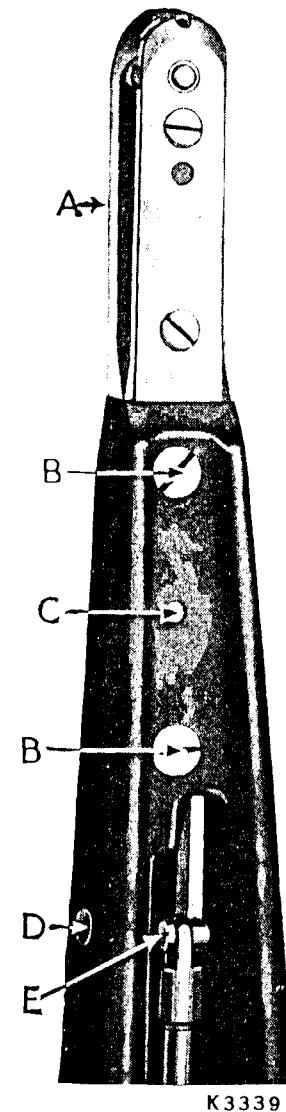

Fig. 19.
Remove the machine head from the treadle stand, or power bench, by taking out the four screws. The head should now be tipped endwise with the underside of the horn facing you. Withdraw the two screws (F) and remove the cover plate so as to expose the parts in the rack box (see Fig. 18), any or all of which can be removed without disconnecting the rack box from the machine. To take out the shuttle carrier, remove the small set screw in the shuttle carrier pinion by inserting a small screw driver through the groove (G) at the side of the rack box. The shuttle carrier can then be pressed through the pinion. To remove the long rack (J) insert the screw driver through the hole (D) (see Fig. 19) and take out the screw. Before, however, withdrawing the rack remove the pinion (L); then grip the rack and draw it in a straight-away manner towards the pulley end of the machine. The short rack (K) and shuttle driver pinion (H) can be removed without difficulty. When replacing the parts, care must be taken to see that the gears and racks are correctly enmeshed, as shown in the illustration.
Instructions for the Removal of the Rack Box (See Fig. 19)